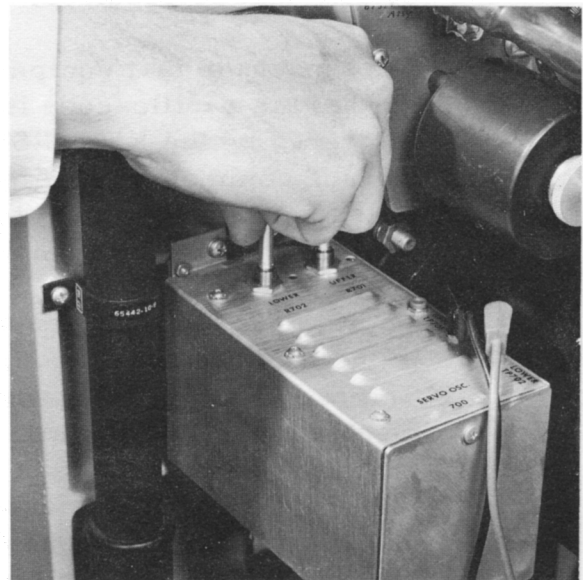

Figure 4-3
- Step 22: Adjust the lower servo gain control potentiometer (Figure 4-3) for a 4 volt rms reading of the voltmeter.